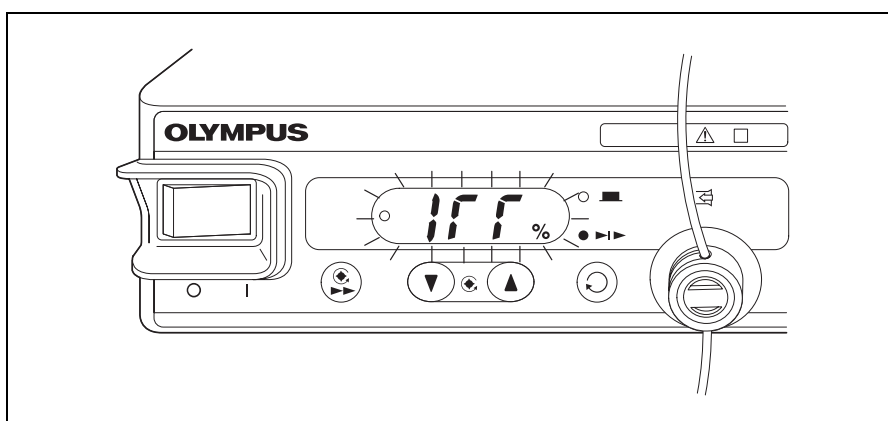

Figure 5.1
2. Confirm that “HP2” is displayed on the ultrasonic output setting indicator of the generator and the irrigation level setting indicator of the irrigation unit. After “HP2” has been displayed, the previous output setting is displayed (SonoSurg-G2) and “Irr” flashes (SonoSurg-IU) on the indicators of each unit (see Figure 5.1).